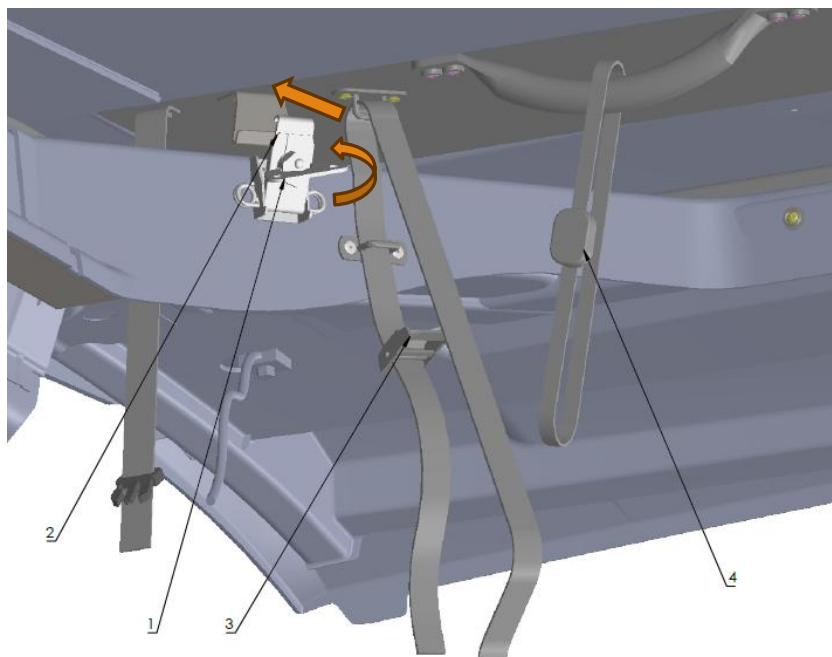

Fig. 6
- Fasten and tighten the safety straps with great force first ( **Fig. 6, 3** ), then close and lock the butterfly locks ( **Fig. 6, 1** )